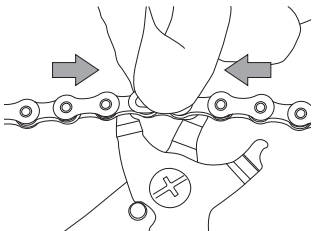

Fig.13
- Compress the C-Link™ by pushing on both sides (inner and outer) and simultaneously operate the callipers to bring the two pins closer together (Fig. 13).